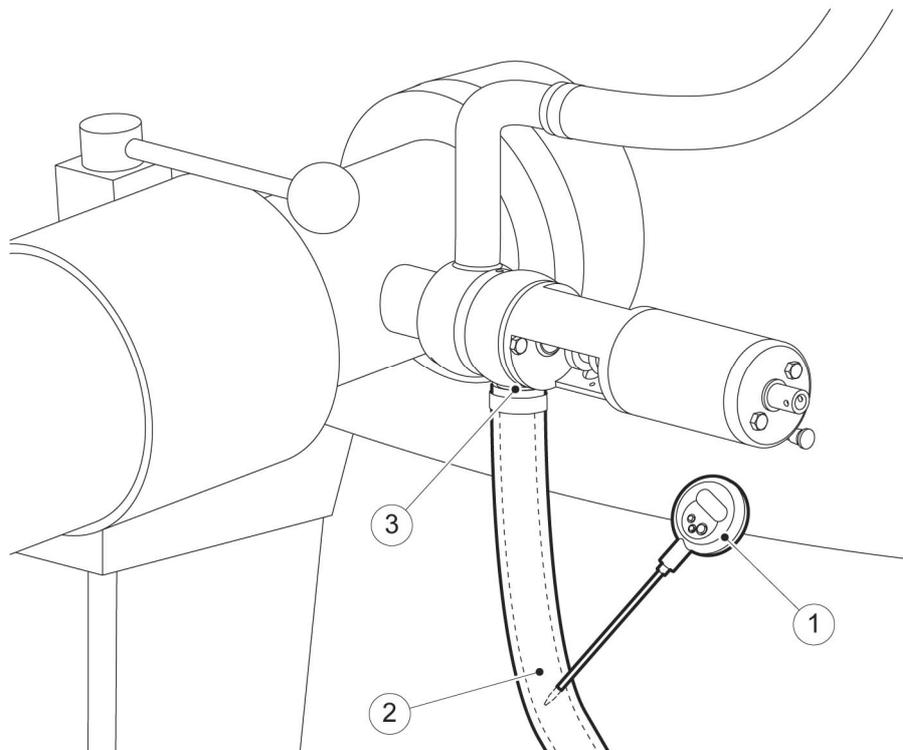

Figure 1: Install the min/max thermometer
- Min/max thermometer (fig. 1/1)